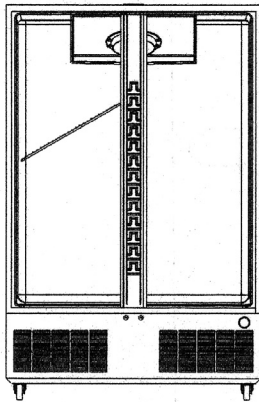

Figure 1
1. Insert shelf through door opening, the shelf will need to be tilted as shown in figure 1.